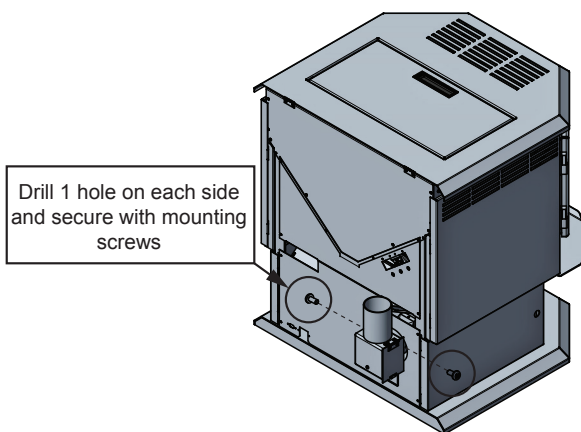

Figure 3
- Drill 2 holes with #26 drill bit (C3) through the Exhaust Outlet using the 2 holes already in the short horizontal pipe on the Vent Adapter as a guide. Secure using two mounting screws (C2) (Figure 3).